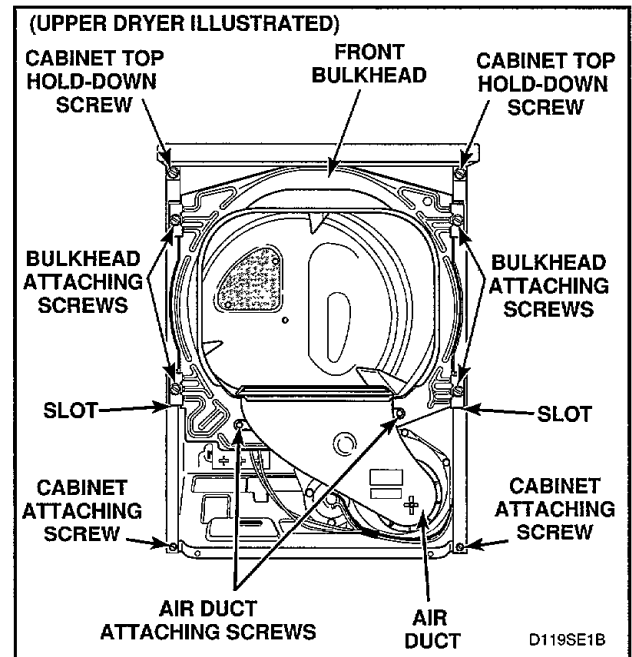

Figure 38
- Remove four screws holding bulkhead to front flange of cabinet, *Figure 38*. Lift complete bulkhead assembly out of slots in cabinet.
- f. Remove four screws holding bulkhead to front flange of cabinet and lift complete bulkhead assembly out of slots in cabinet, *Figure 38*.
- Remove four screws holding bulkhead to front flange of cabinet and lift complete bulkhead assembly out of slots in cabinet, *Figure 38*.
- Loosen two cabinet top hold-down screw, *Figure 38*.
- (1) Remove two cabinet top hold-down screws, *Figure 38*.
- k. Remove four screws holding bulkhead to front flange of cabinet and lift complete bulkhead assembly out of slots in cabinet, *Figure 38*.